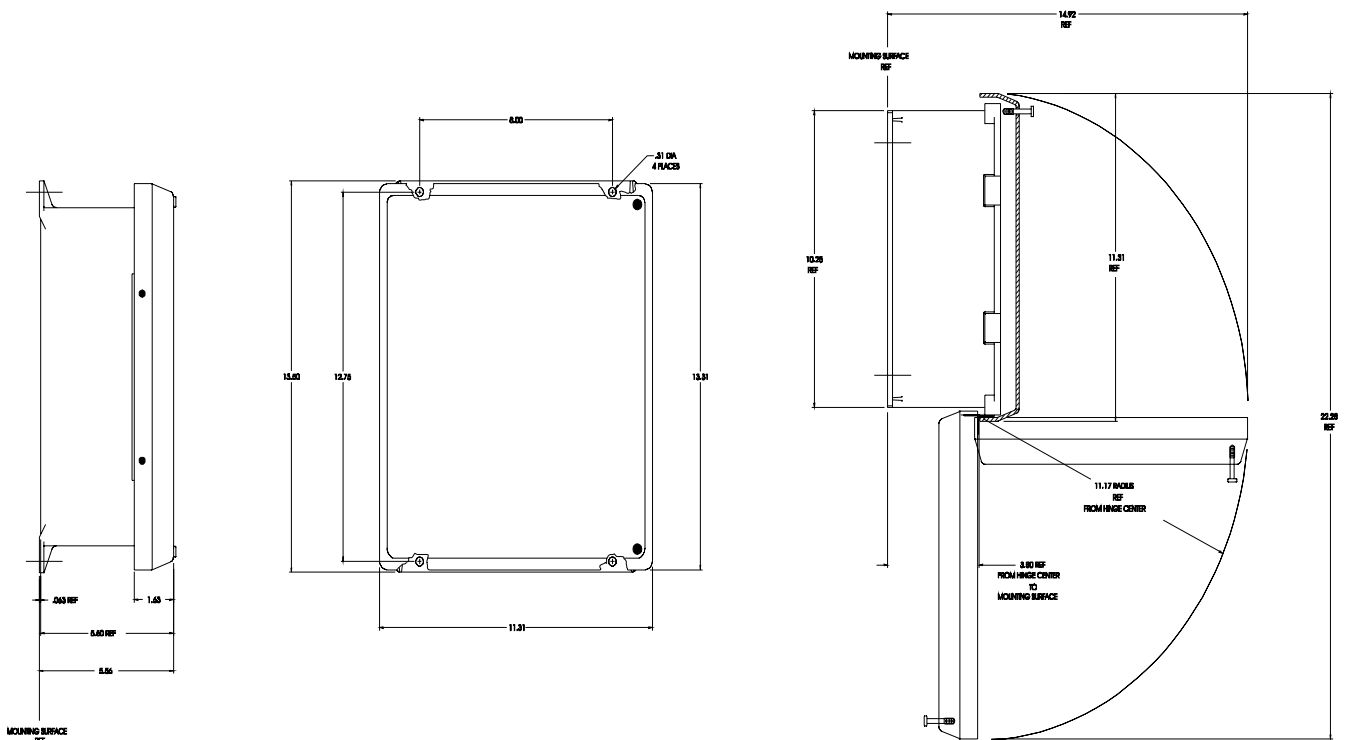

Figure 8
3. Mounting: Refer to **Figure 8** for enclosure and mounting dimension details. Ensure that enough room is available to allow for door swing, maintenance and conduit entrances. Secure the enclosure to a flat surface with four appropriate fasteners.